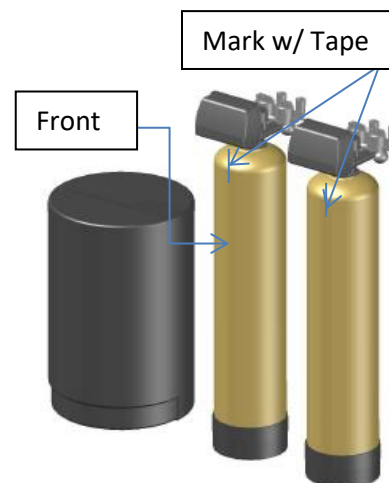

Figure 7: Correctly Set Up DCS6 Twin System
- 4. Mark the “front” of each resin tank (shown in Figure 7) with either a marker or tape. The front of the resin tank is determined by the location of the face of the control valve once it has been secured to the face of the control valve. Make sure that the system is positioned in a way that the plumbing can be installed.